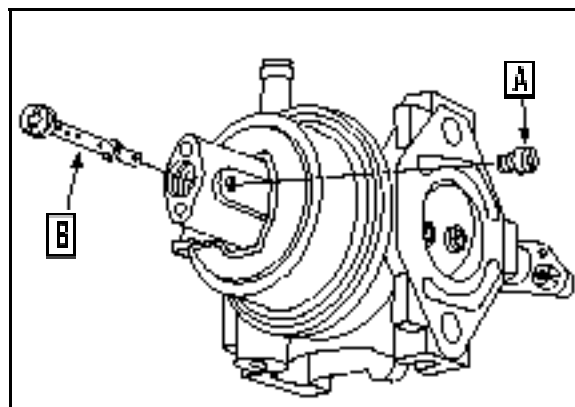

Fig. 98
5. Remove the main jet (A) from the fuel pick-up tube.
6. Remove the emulsion tube (B) (Fig. 98) with a carburetor jet screwdriver.